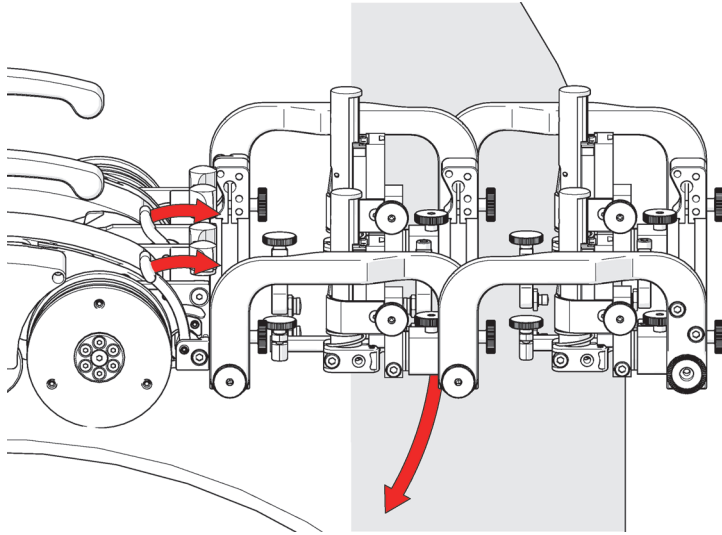
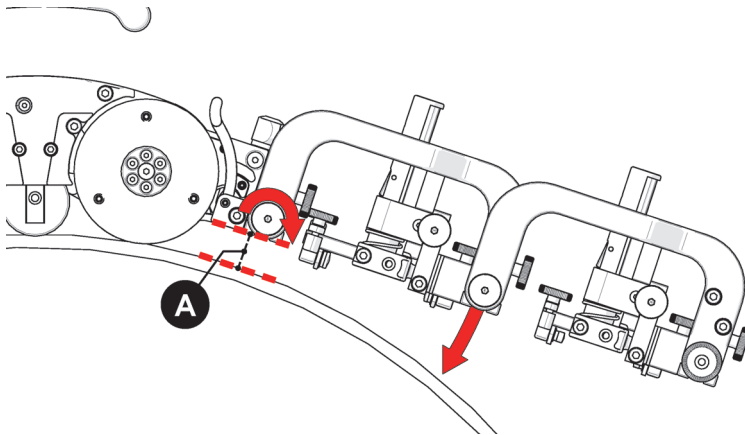
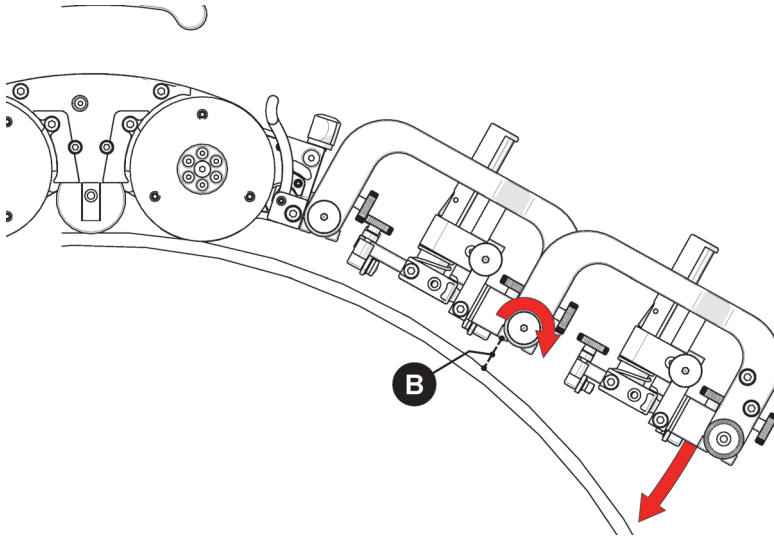
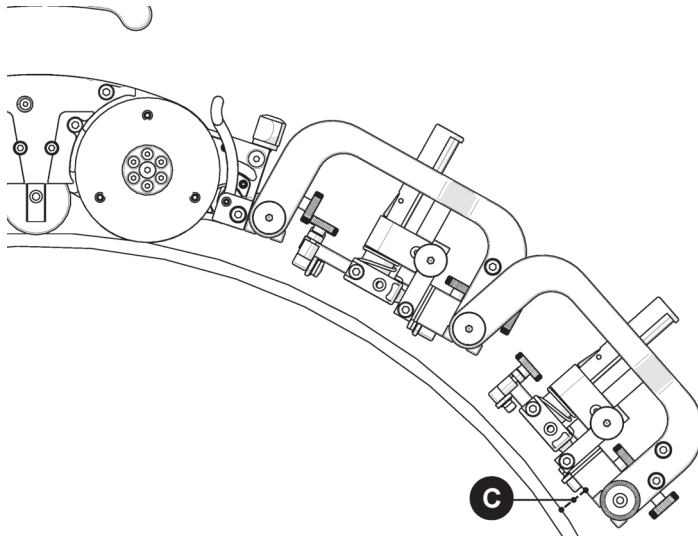

Figure 2-107 Align swivel mount with scan surface
Figure 2-108 Set rear rotational adjustment knob
Figure 2-109 Set front rotational adjustment knob
Figure 2-110 Align probes with the scan surface tangent
3. Mount the probe holder frame to the SteerROVER (see “Swivel Mount” on page 67 for additional details). When mounting the probe holder frame, ensure that the attachment knobs are at the front (not the scanner side) [see Figure 2-107 on page 129].
4. Release the two swivel mount levers (see Figure 2-107 on page 129) to position the swivel mount parallel to the scan surface (see Figure 2-108 on page 129). When alignment with scan surface is achieved, lock the SteerROVER scanner's swivel mount levers.
5. Loosen the rear rotational adjustment knob to lower the rear section of the frame toward the inspection surface (see Figure 2-108 on page 129). Ensure that gap B (see Figure 2-109 on page 130) is no smaller than gap A (see Figure 2-108 on page 129).
6. Loosen the front rotational adjustment knob (see Figure 2-109 on page 130) to lower the front section of the frame toward the inspection surface, ensuring that gap C (see Figure 2-110 on page 131) is no smaller than gap A (see Figure 2-108 on page 129).